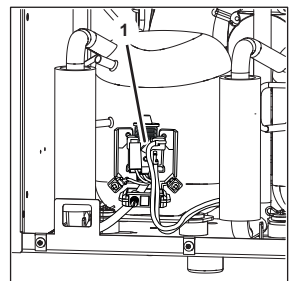

Figure 135
- Disconnect all necessary electrical cables from the starter relay (Figure 135/1).
- Remove the starter relay (Figure 135/1).
- Place the new starter relay (Figure 135/1) into position.
- Connect all electrical cables to the starter relay (Figure 135/1).